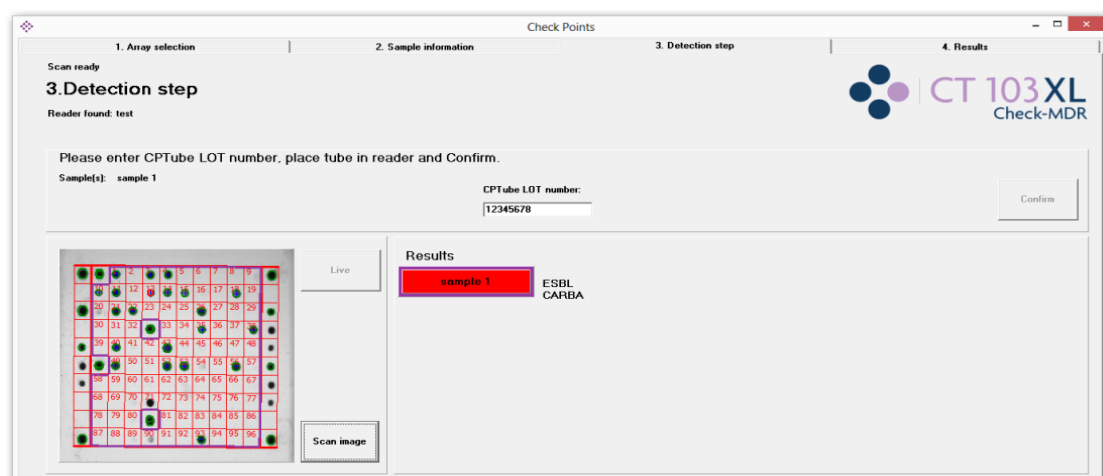

Figure 6: Presentation of the final result.
17. Enter the AT lot number in the appropriate field when the 15 minutes incubation time has been completed (optional: use the Barcode Reader to scan the AT lot numbers). Next, insert the AT with open cap into the reader, close the lid of the reader, and click on the “Confirm” button in the software. Then click on “Scan image”: the results will be displayed immediately (see figure 6). Finally click on “Save Results” to save the results in the database. The software will now indicate which sample should be analyzed next. Repeat this step until all ATs are analyzed.